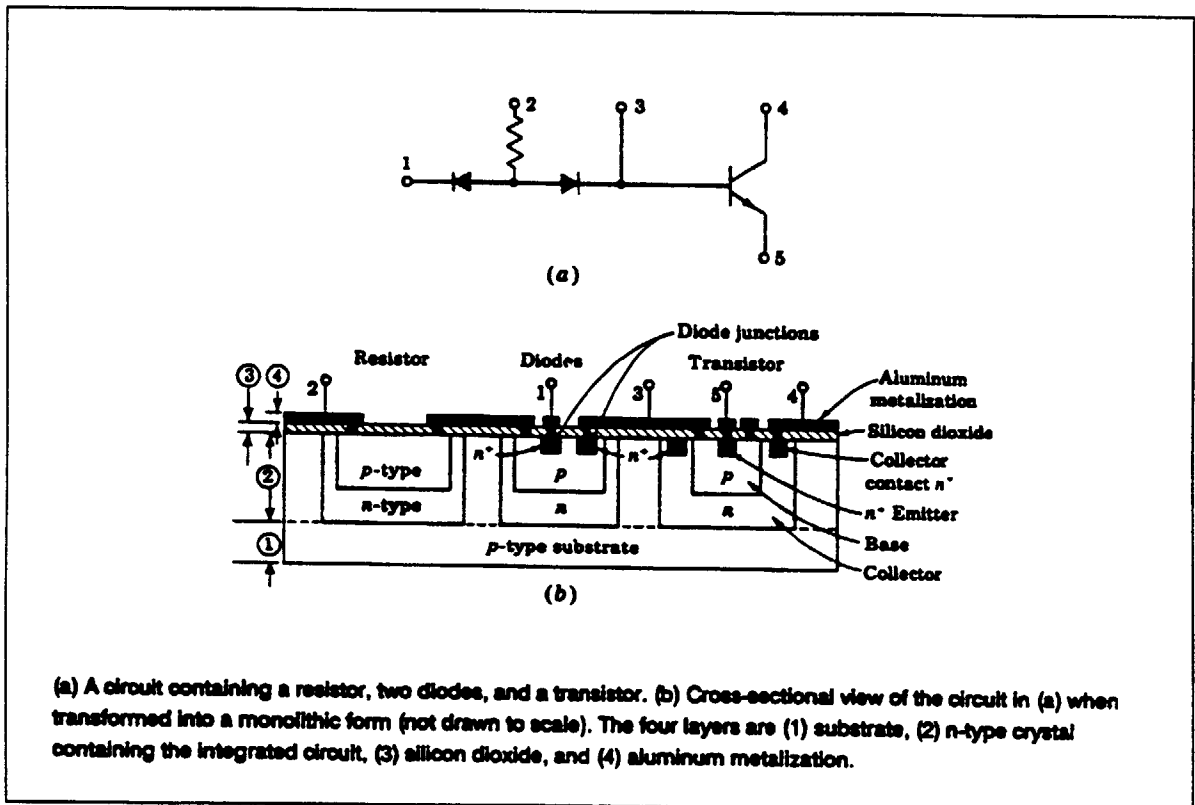

Figure 12-1. Typical Integrated Circuit Construction.
The basic structure of an integrated circuit is shown in Figure 12-1, and consists of four distinct layers of material. The bottom layer (1) (6 mils thick) is P-type silicon and serves as a substrate upon which the integrated circuit is to be built. The second layer (2), typically 25 mils thick, is an N-type layer which is grown as a single crystal extension of the substrate. All components are built within the N-type layer using a series of diffusion steps. The third layer of material (3) is silicon dioxide, and it also provides protection of the semiconductor surface against contamination. Finally, a fourth metallic (aluminum) layer (4) is added to supply the necessary interconnections between components.